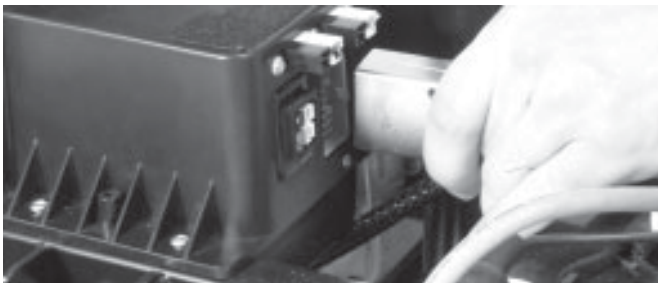

FIGURE 21. DISCONNECTING THE FRONT-TO-REAR HARNESS
7. Unplug the silver front-to-rear harness that connects the control console assembly to the rear electronics module. See figure 21.